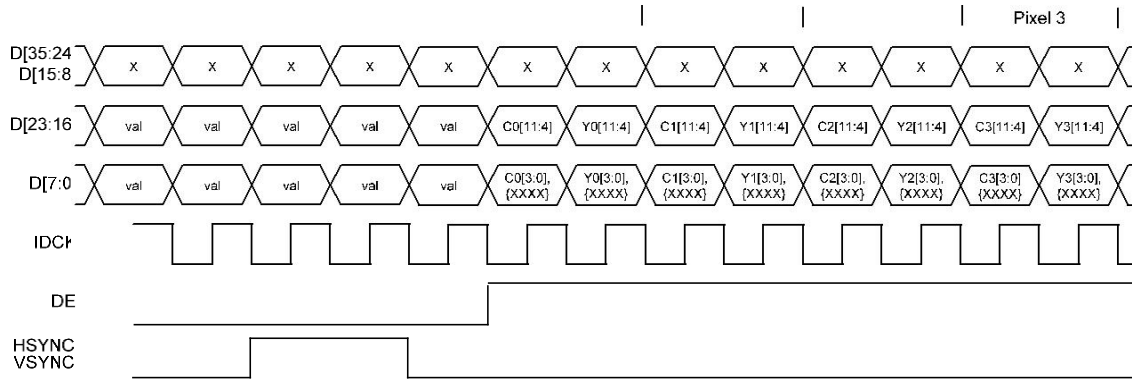

Figure 32. YC Mux 4:2:2 Timing Diagram
The video data is multiplexed onto fewer pins than the mapping in Table 25, but a luma (Y) is provided each pixel, and either a Cb or a Cr value each pixel, since the clock rate is doubled. Figure 32 shows the 12-bit mode. The 10- and 8-bit mappings fewer input pins the pixel data. Note the explicit syncs.